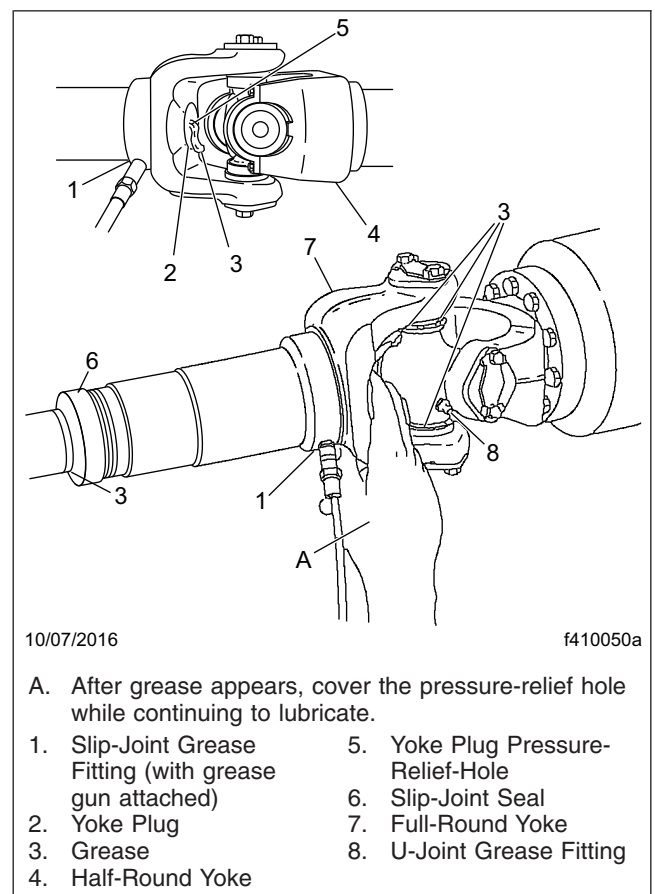

Fig. 1, Slip-Joint and U-Joint Lubricating
2. Use a hand-type grease gun, or a high-pressure gun with a low-pressure adaptor, to lubricate the U-joints. See **Fig. 1**.
2. Use a hand-type grease gun or a high-pressure gun with a low-pressure adaptor, to lubricate the slip-joint. Using lithium 12-hydroxy stearate grease (NLGI grade 1 or 2, with EP additives), lubricate until fresh grease appears at the pressure-relief hole in the yoke plug. Then cover the relief hole with your finger, as shown in Fig. 1, while continuing to lubricate until fresh grease appears at the slip-joint seal. This ensures complete lubrication of the splines.